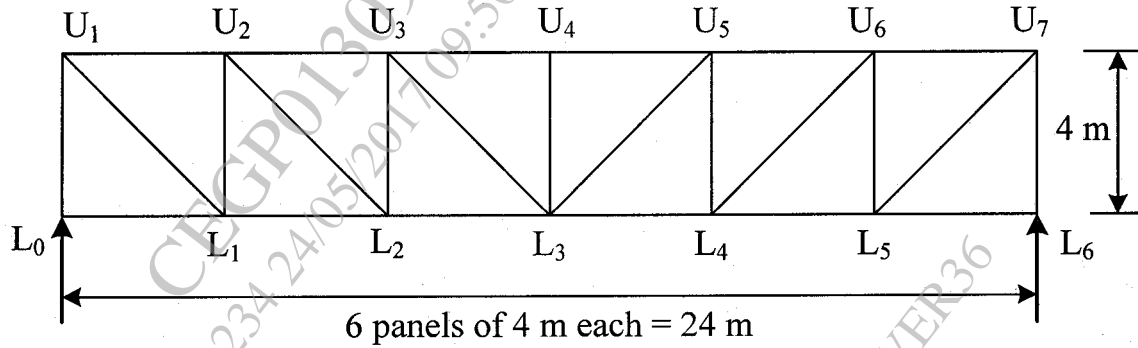

Fig. 3
- (b) Draw influence line diagrams for forces in the members  $U_2U_3$ ,  $L_2U_3$  and  $L_2L_3$  of the through type bridge truss of height 4 m as shown in Fig. 3 : [6]